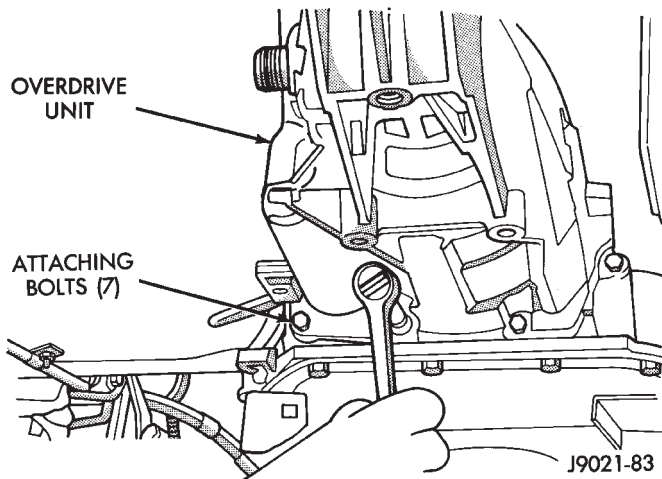

Fig. 52 Removing/Installing Overdrive Unit Attaching Bolts
(9) Remove vehicle speed sensor and speedometer adapter.
(10) Remove bolts attaching overdrive unit to transmission (Fig. 52).